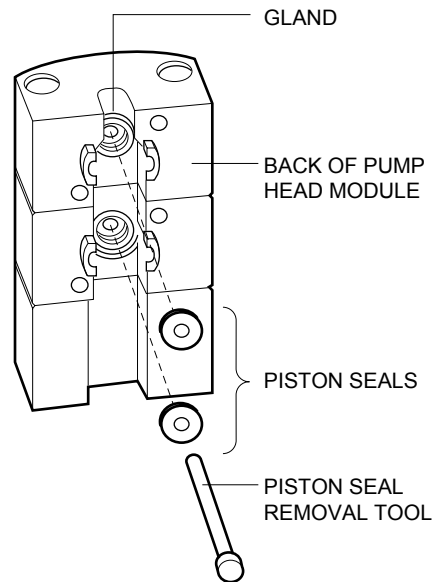

Figure 67. Removing the Piston Seals (view showing the back of the Pump Head Module)
- e. Using the Piston Seal Removal Tool, pry the seal from the gland. To do this, you insert the tip of the Seal Removal Tool into the seal and gently pry the seal away. (See Figure 67.)